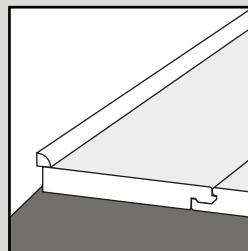

Fig. 7
9. Once the floor is installed, remove the spacers; sweep the floor with a soft brush. Fix the skirting/base boards or suitable edge trim (available from your local distributor) to cover the expansion gaps. These should be attached to the wall and not the floor, such that the product remains free to expand (Fig. 7 & 8).